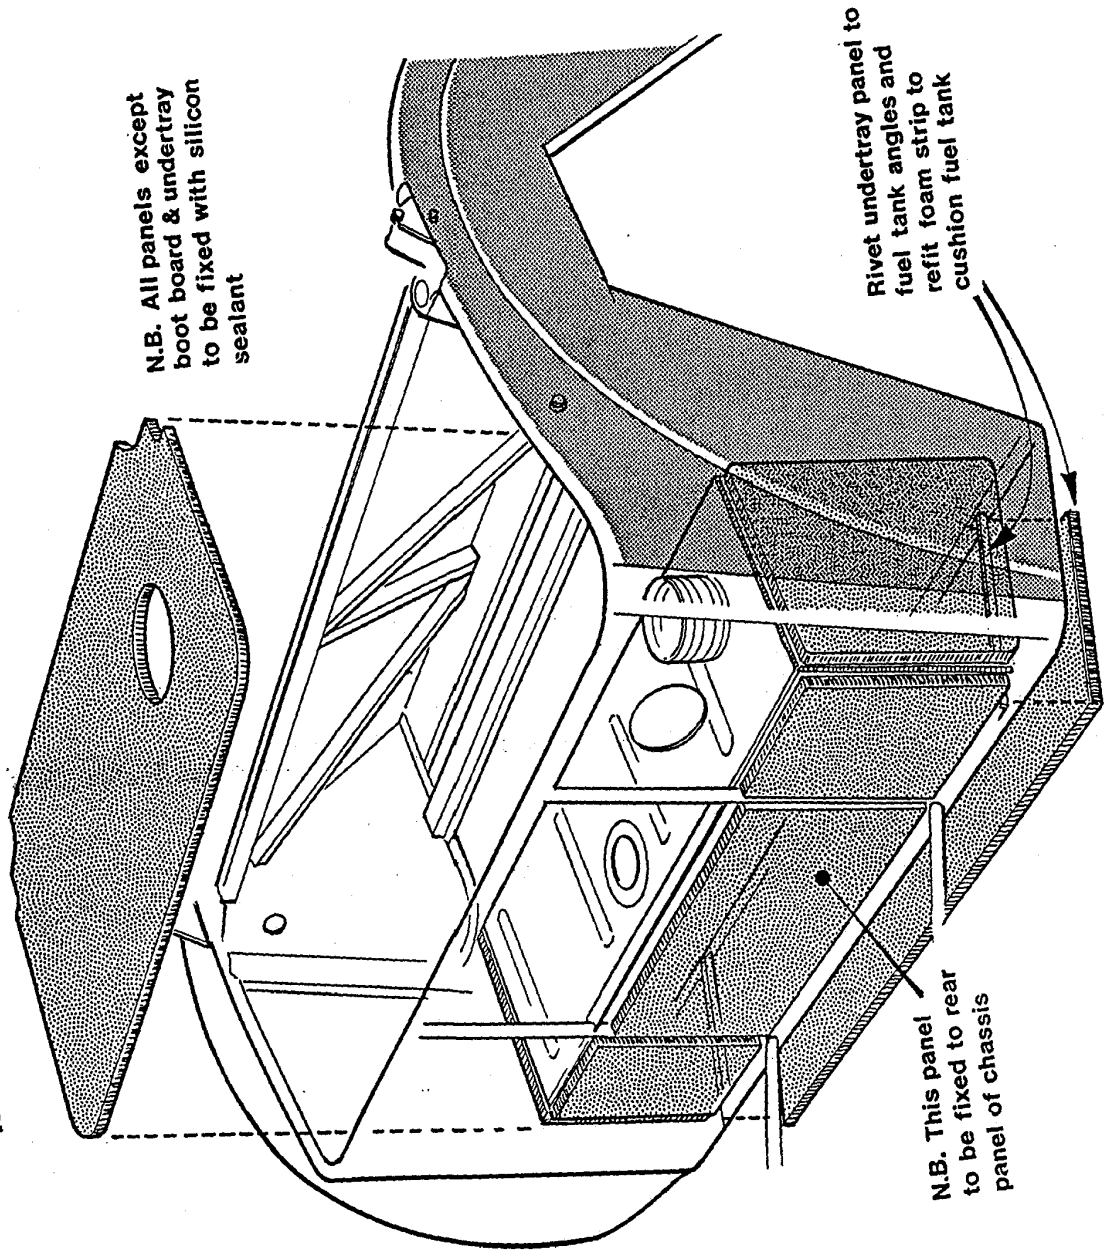

Fig. 14.16
16.2 Referring to Fig. 14.16 the first panel to be fitted is the centre rear panel which is secured using a thin smear of silicon sealant to the inside face of the back panel.